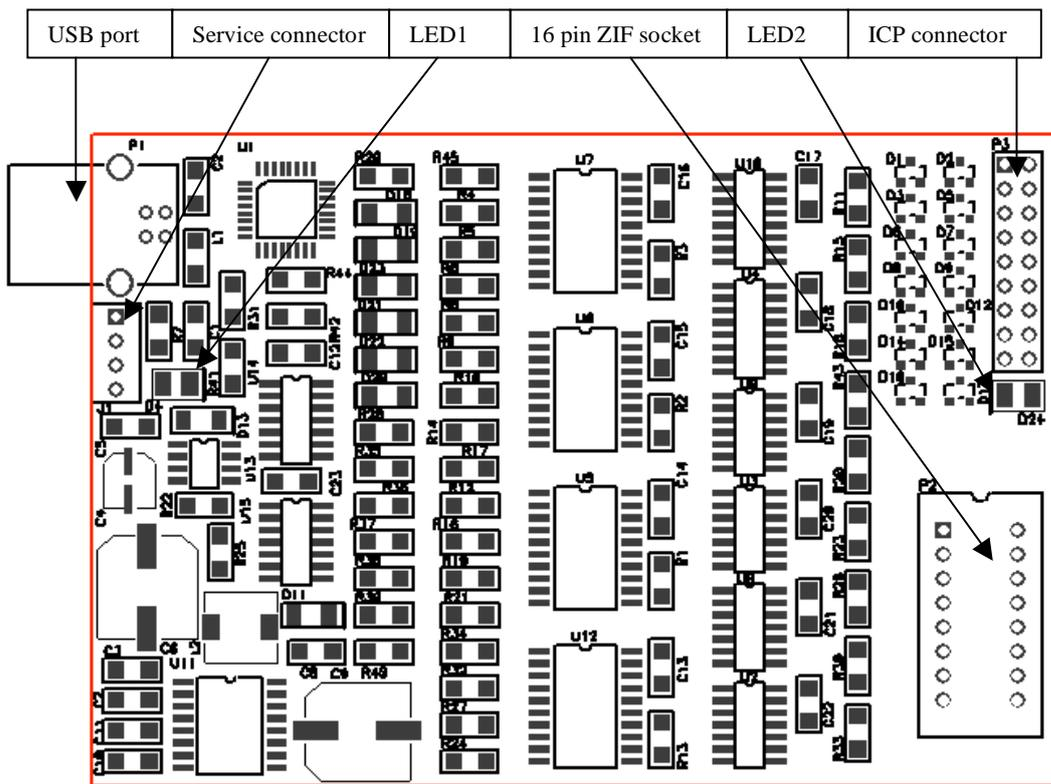
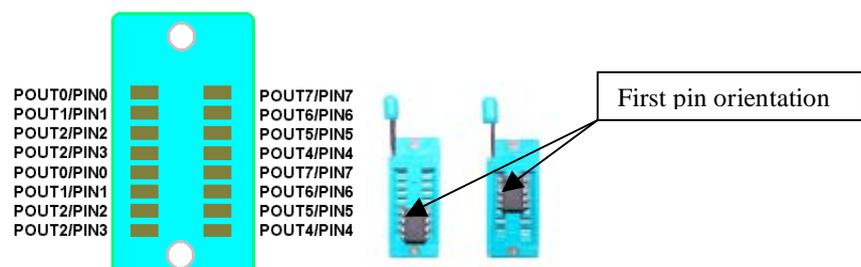
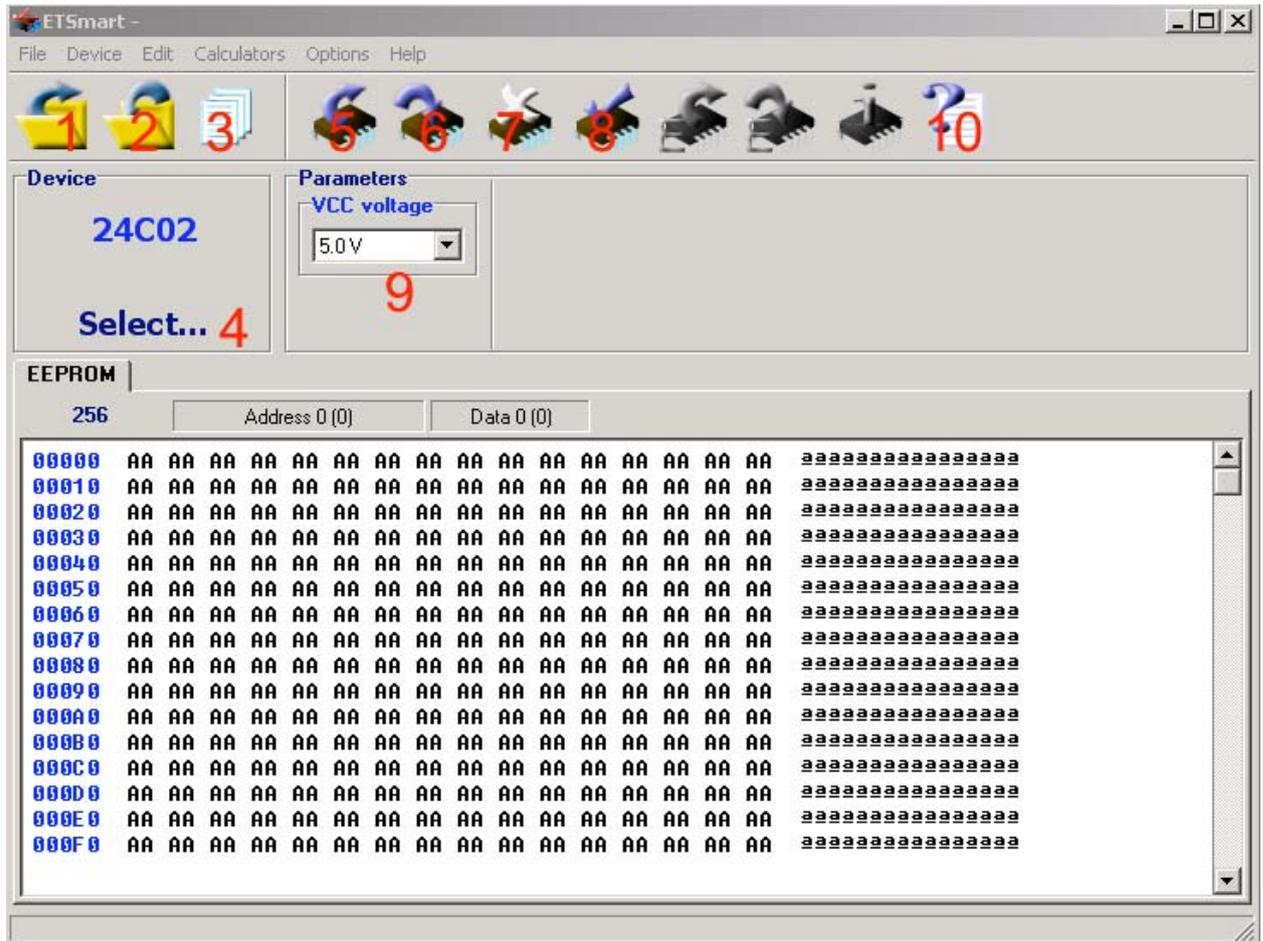
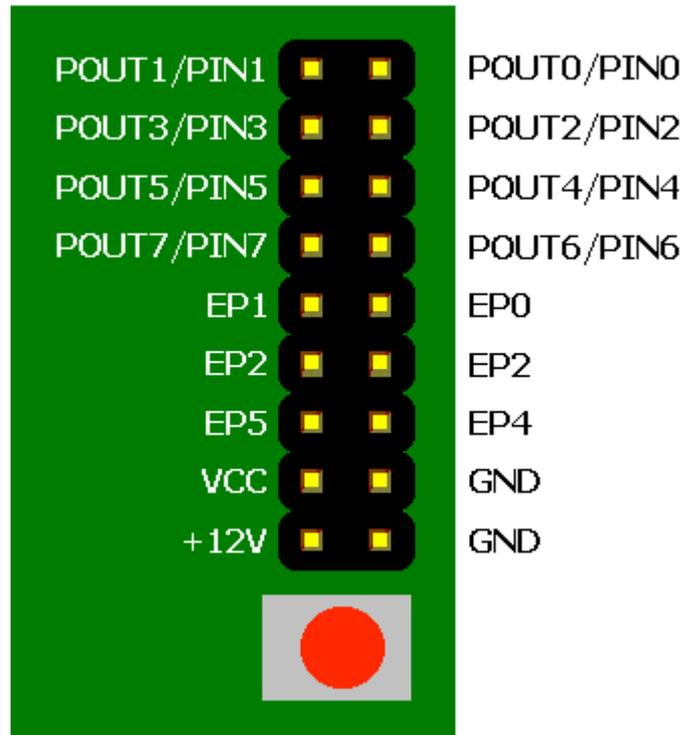

Figure 1. ETSMARTUSB programmer components
Figure 2. 16 pin ZIF socket pin out
Figure 3. User interface ETSMARTUSB programmer
Figure 7. ICP connector bus meaning
To understand ETSMARTUSB components meaning see Figure 1. To install and use the ETSMARTUSB follow these steps:
Check correct insertion of the target device (See Figure 2) before start any operation.
16 pin ZIF socket suitable for 8-DIP memory devices and microcontrollers only (See Figure 1; Figure 2). ICP connector (expansion bus) designed for support devices more than 8 pins with special programming adapters and In-Circuit Programming mode. Bus meaning see Figure 7. The ETSMARTUSB programmer includes two LEDs (see Figure 2):
LED 1: Power supply indicator (see Figure 1). Appear to Green color when power supply voltage applied to ETSMARTUSB.
LED 2: Target device VCC indicator, this solution give a difference amount of light from LED 2 for all target voltages from 2.8 to 5.0 V (see Figure 1; Figure 3 item 9). Appear to Red color when target power supply applied to target device or ICP connector.
Start hardware test to check the pins contacts. Remove all devices from socket. Click main menu button “Options” then “Hardware Test”. Set all OUTS to logic “1” to start test. Short pins №3 and №4 on 16 ZIP socket (see Figure 2). Turn On Power supply then set voltage.
After reading Quick start charter, you may to know the specific process of programming. This chapter helps users understand the whole process of IC program. The content consist of software interface description and steps of device programming. Buttons meaning for items 1-10 see Figure 3, rest is as following: